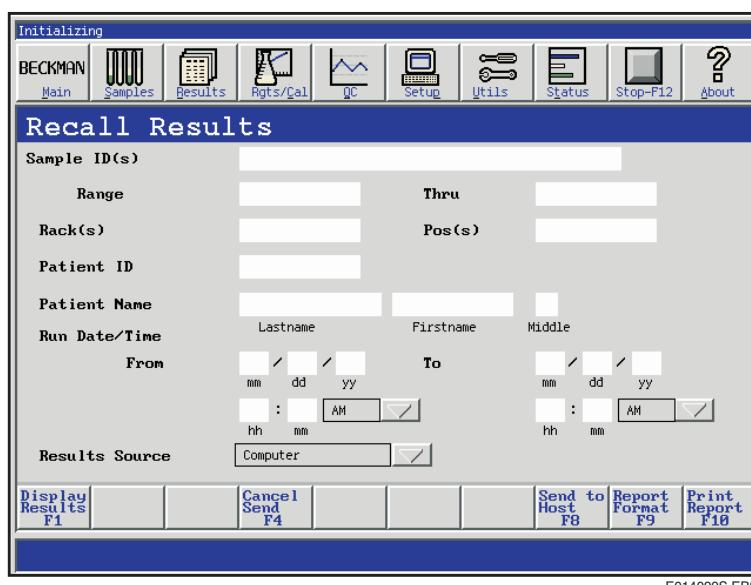

Figure 8.1     Recall Results
To recall results, select **Results** from the menu bar; Recall Results screen (Figure 8.1) will appear.
- Select all results to be printed from the Recall Results screen (refer to Figure 8.1).
- Select the result to be printed from the Recall Results screen (refer to Figure 8.1).